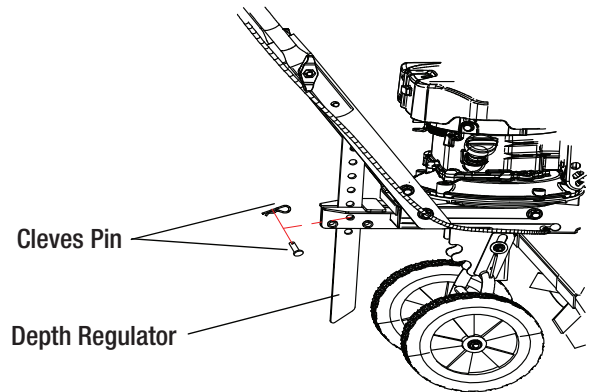

Figure 1-3
- First attach the depth regulator to the drag bar holder, choose proper height and then lock the depth regulator with a cleves pin. See Figure 1-3.